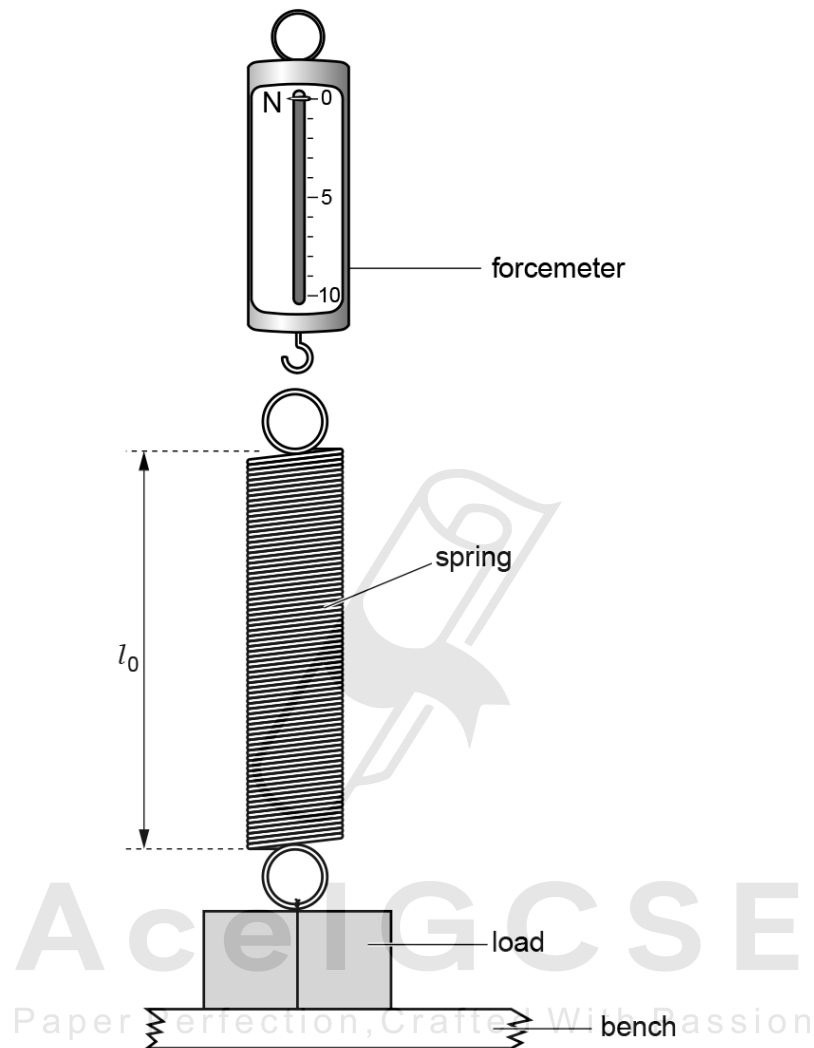

Fig. 5.1
Fig. 5.1 shows the apparatus.
- (a) On Fig. 5.1, measure the unstretched length l_0 of the spring, in mm.
- (b) A student hangs the spring on the forcemeter with the load attached to the bottom of the spring, as shown in Fig. 5.1. The load remains on the bench.